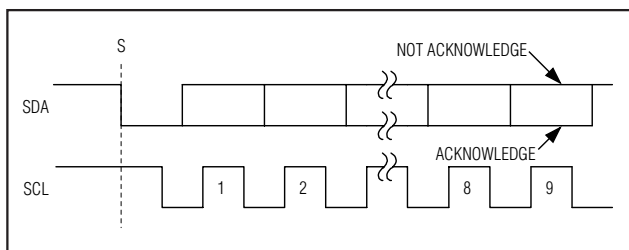

Figure 6. Acknowledge Bits
Data transfers are acknowledged with an acknowledge bit (A) or a not-acknowledge bit (\bar{A}). Both the master and the MAX1136-MAX1139 (slave) generate acknowledge bits. To generate an acknowledge, the receiving device must pull SDA low before the rising edge of the acknowledge-related clock pulse (ninth pulse) and keep it low during the high period of the clock pulse (Figure 6). To generate a not-acknowledge, the receiver allows SDA to be pulled high before the rising edge of the acknowledge-related clock pulse and leaves SDA high during the high period of the clock pulse. Monitoring the acknowledge bits allows for detection of unsuccessful data transfers. An unsuccessful data transfer happens if a receiving device is busy or if a system fault has occurred. In the event of an unsuccessful data transfer the bus master should reattempt communication at a later time.